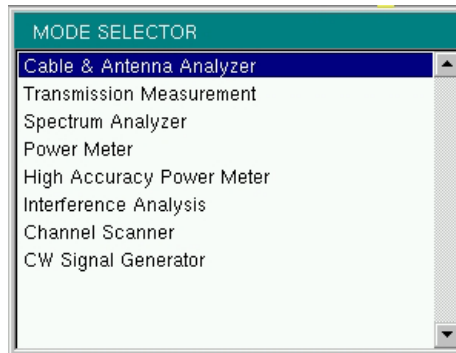

Figure 2-12. Mode Selector Menu
To access the functions under the Mode menu, select the **Shift** key, then the **Mode** (9) key. Use the directional arrow keys, the rotary knob, or the touch screen to highlight the selection, and press the **Enter** key to select. The list of modes that appear in this menu will vary depending upon the options that are installed and activated in the instrument. Figure 2-12 is an example of the Mode menu. Your instrument may not show the same list. The current mode is displayed below the battery symbol.